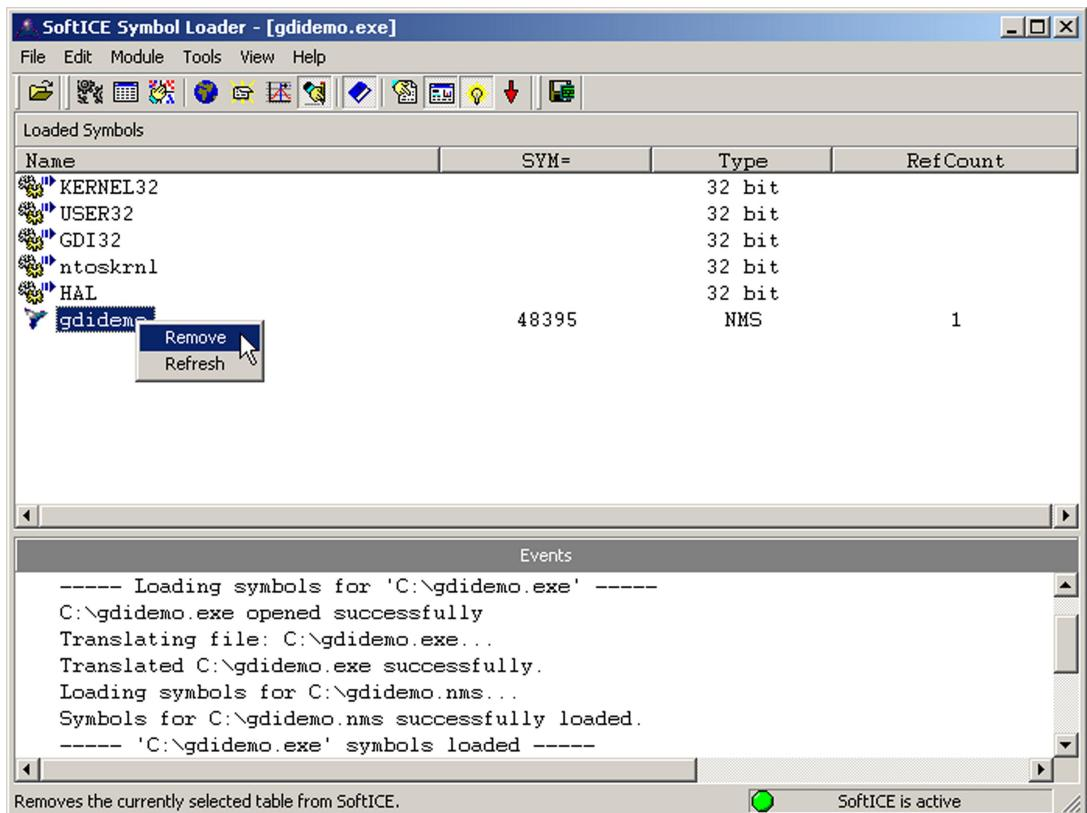
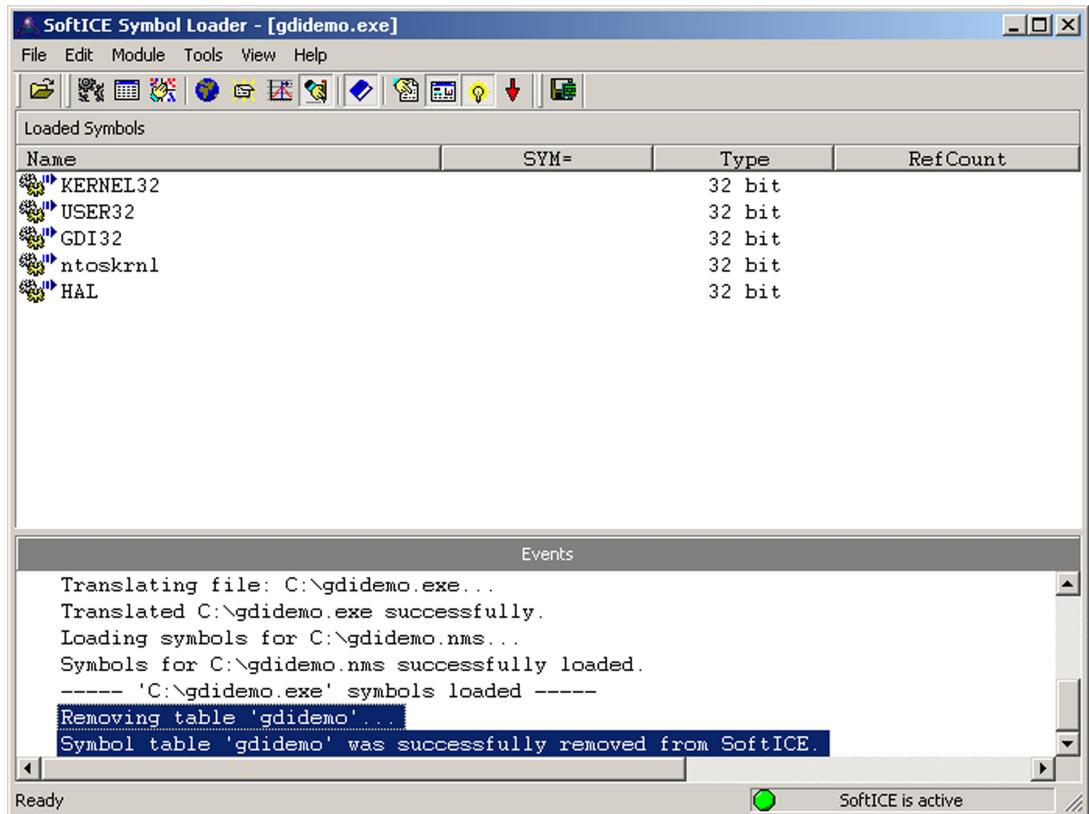

Figure 4-8. Removing a Symbol Table
Figure 4-9. Symbol Table Removed Statement
**Note:** You can also right-click on an item in the Loaded Symbols view (Figure 4-8) and select Remove from the pop-up menu for an individual file. The selected symbol table is removed (Figure 4-9).